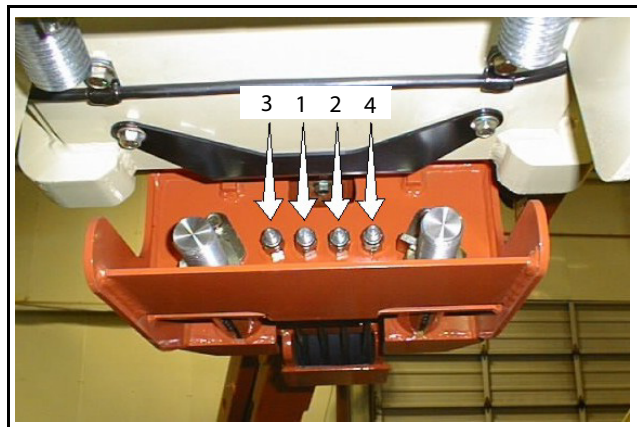

Figure 4-28. Torque Sequence for Fly Extend Rope
- Using tool JLG PN 4120040, torque the Fly Extend Adjustment Nuts to 10 ft-lb (13.5 Nm), starting with the inside ropes and doing the outside ropes last. Refer to Figure 4-28., Torque Sequence for Fly Extend Rope. Alternate between the four ropes until all maintain the required torque.